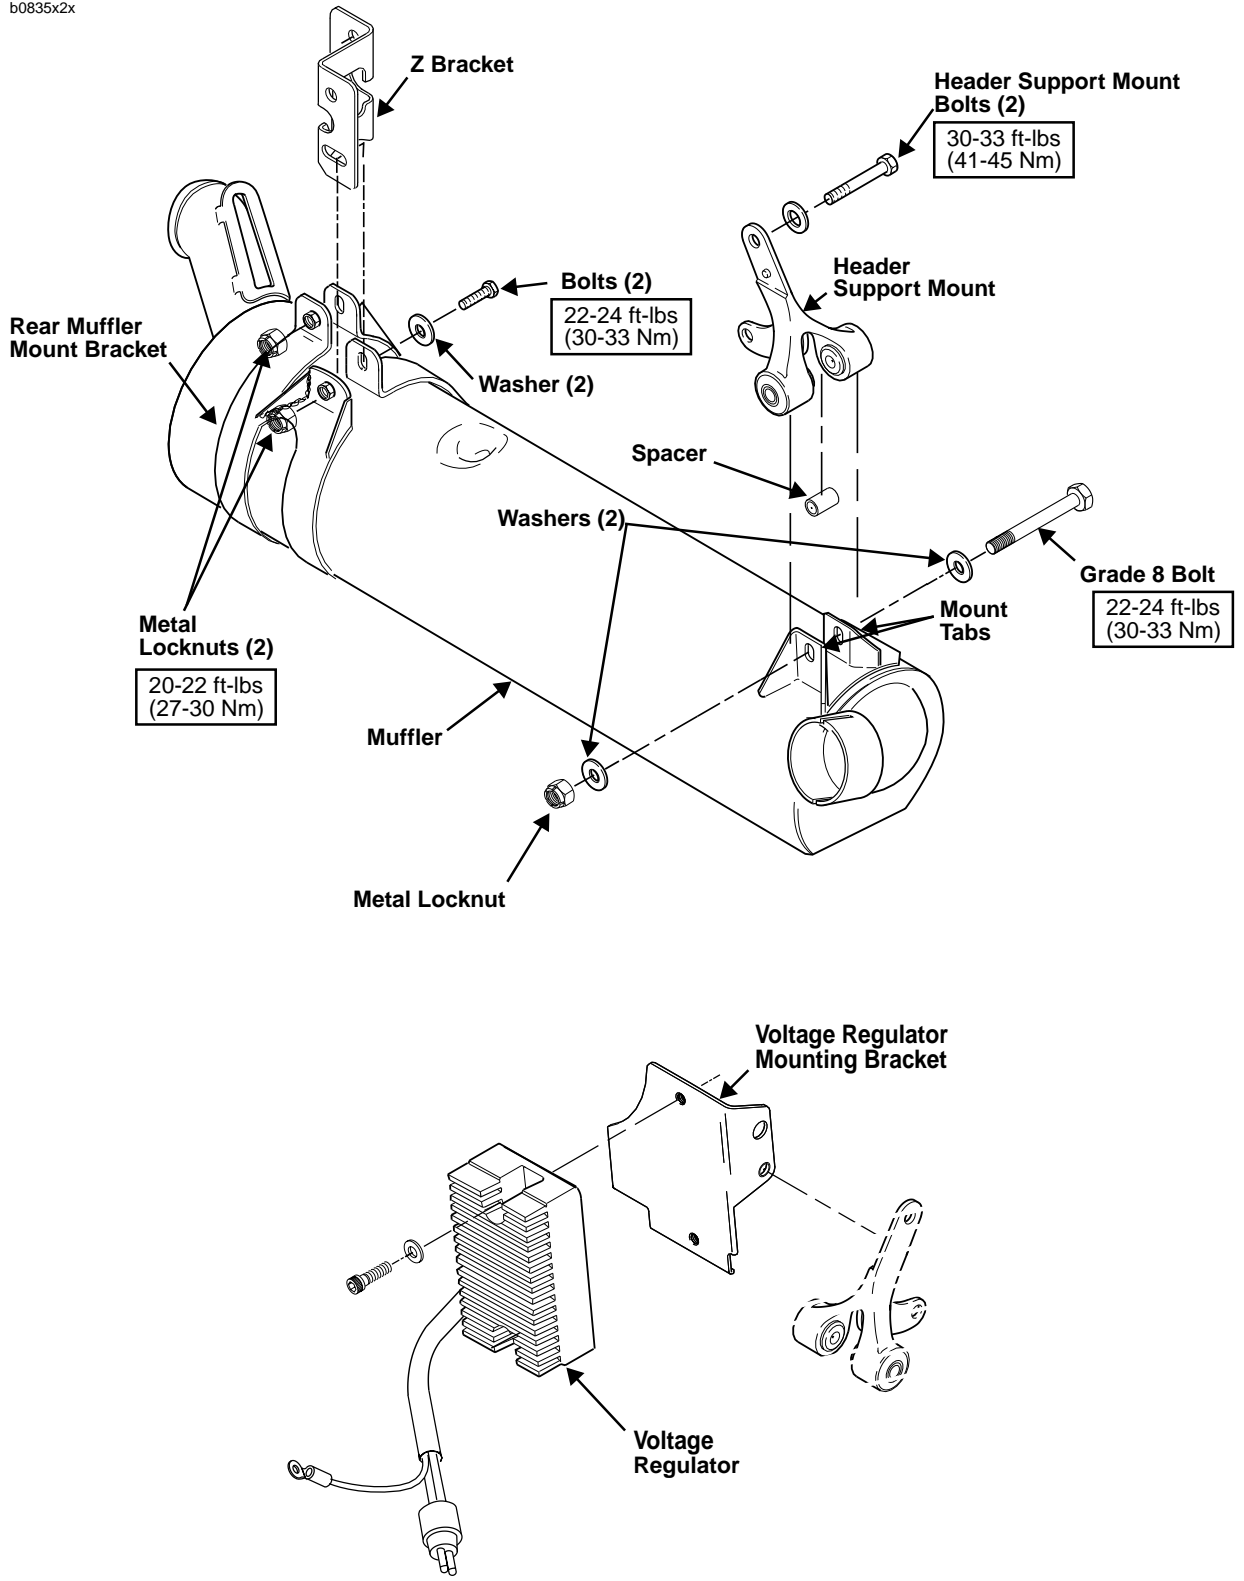

Figure 2-107. Exhaust System
3. See Figure 2-107. Loosen the four exhaust header nuts (20) using SNAP-ON SWIVEL SOCKET (Part No. PFSX916).
5. See Figure 2-107. Remove exhaust header clamps (22), exhaust clamp retaining rings (23) and exhaust port gaskets (24) from exhaust header.
2. See Figure 2-107. If removed, install Z-bracket.